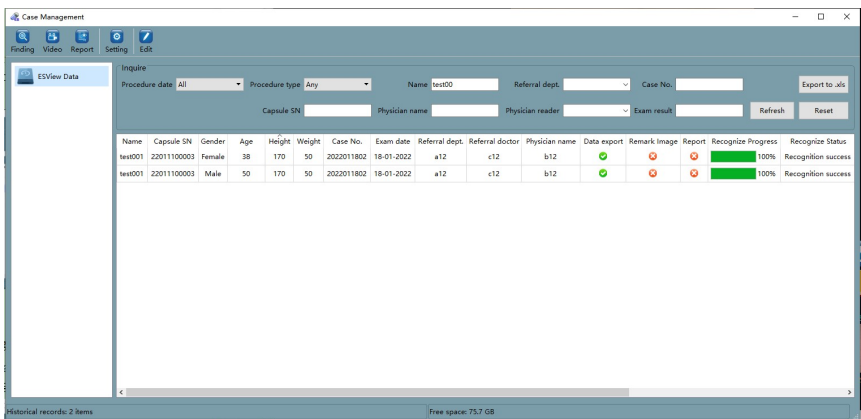
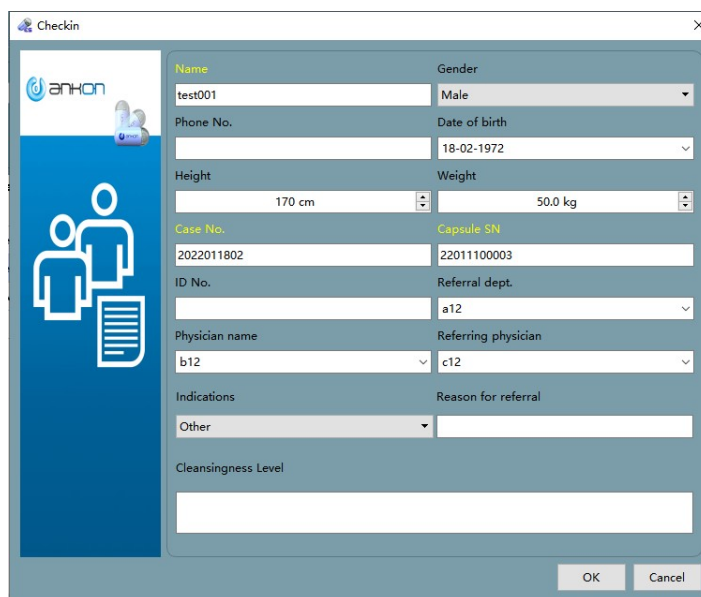

Figure 4-60: Case Management Interface
Figure 4-63: Patient Information Editing Interface
- 1. In the main software interface, select “Tool” → “Case management” to access the case management interface (Figure 4-60). The software will automatically add the data export path to the case data storage path.
4. In the case management interface (shown in Figure 4-60), select a case and click  to open the case video and load the finding file. Click  to open the case video, click  to open the recently saved report, click  to access the patient information editing interface (Figure 4-63), where you can change patient data. Alternatively, in the main software interface, open a video file and select “File” → “Edit patient info” to access the patient information editing interface.